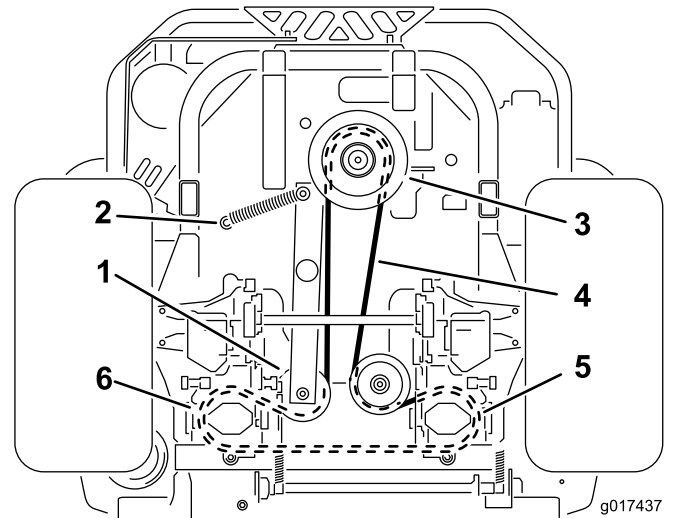

Figure 60
4. Raise the machine and support it with jack stands (Figure 60).
6. Remove the idler spring from the post (Figure 60).